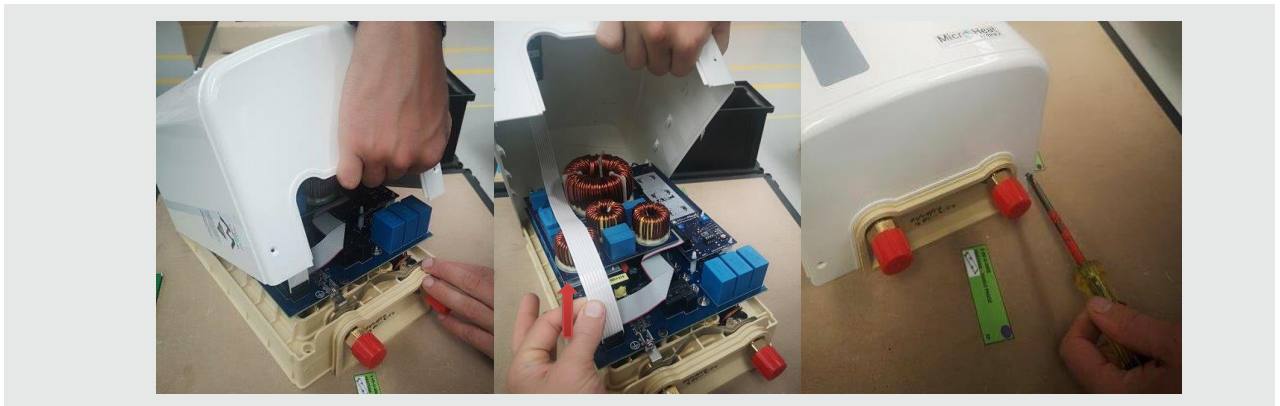

Figure 2 – Display PCB/LED Cable Disconnection & Cover Screw Replacement
2. Carefully remove the Display PCB/LED plug and cable connecting either the Display PCB or Indicator LED on the outside of the Exterior Cover to the PCBA. See Figure 2.